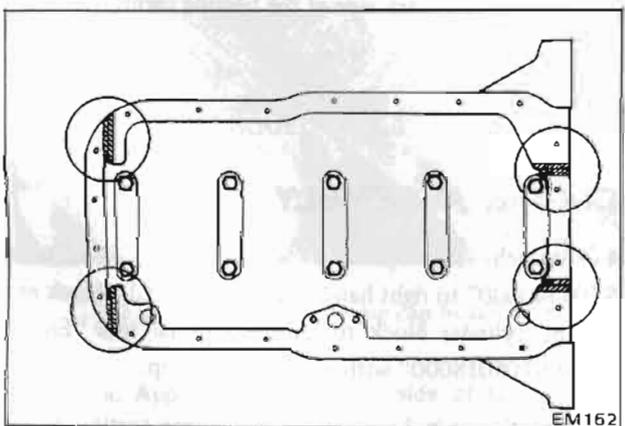

Fig. EM-70 Applying sealant (Cylinder block)
(4) Cylinder block: Step portions at four mating surfaces (the cylinder block to the front chain cover and the cylinder block to the rear main bearing cap). See Figure EM-70.